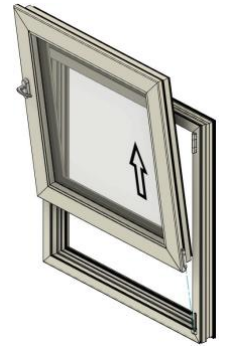

Figure 19
4. Slightly tilt the sash out of the frame and lift it off the lower hinge pin (Figure 19).
4. Ensure the sash was not bowed by improper lifting or storage. If it was, the bow can be removed as shown in Figure 19.